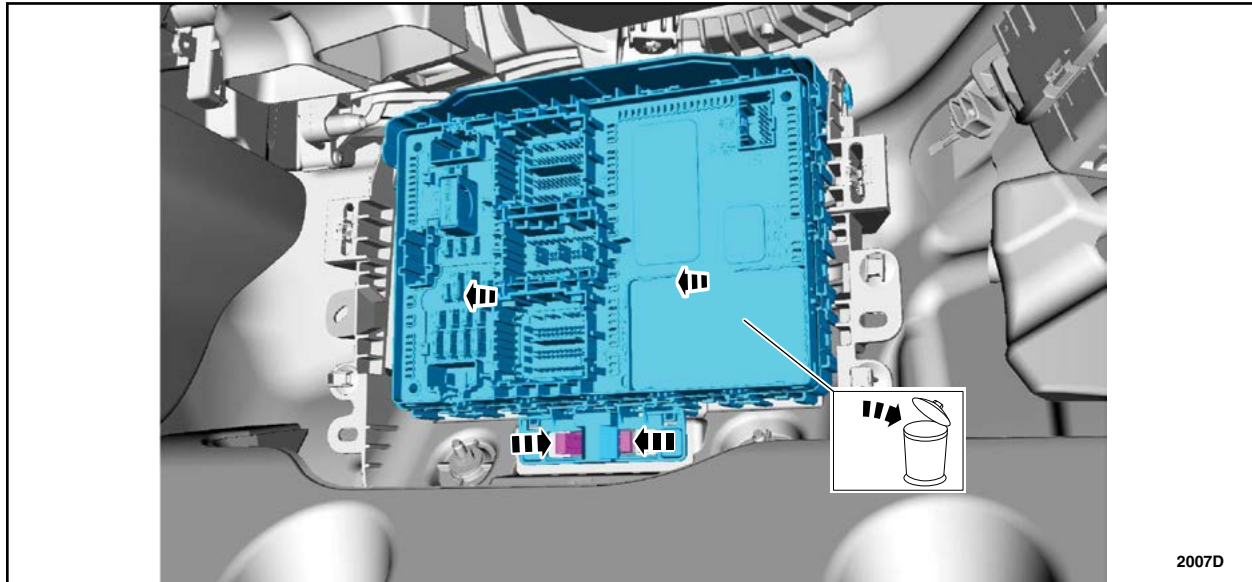

FIGURE 4
6. Release the clips and remove and discard the BCM. See Figure 4.